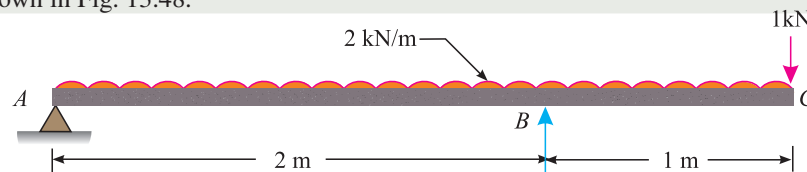

Fig. 13.48
2. Draw the shear force and bending moment diagrams, for the overhanging beam carrying loads as shown in Fig. 13.48.